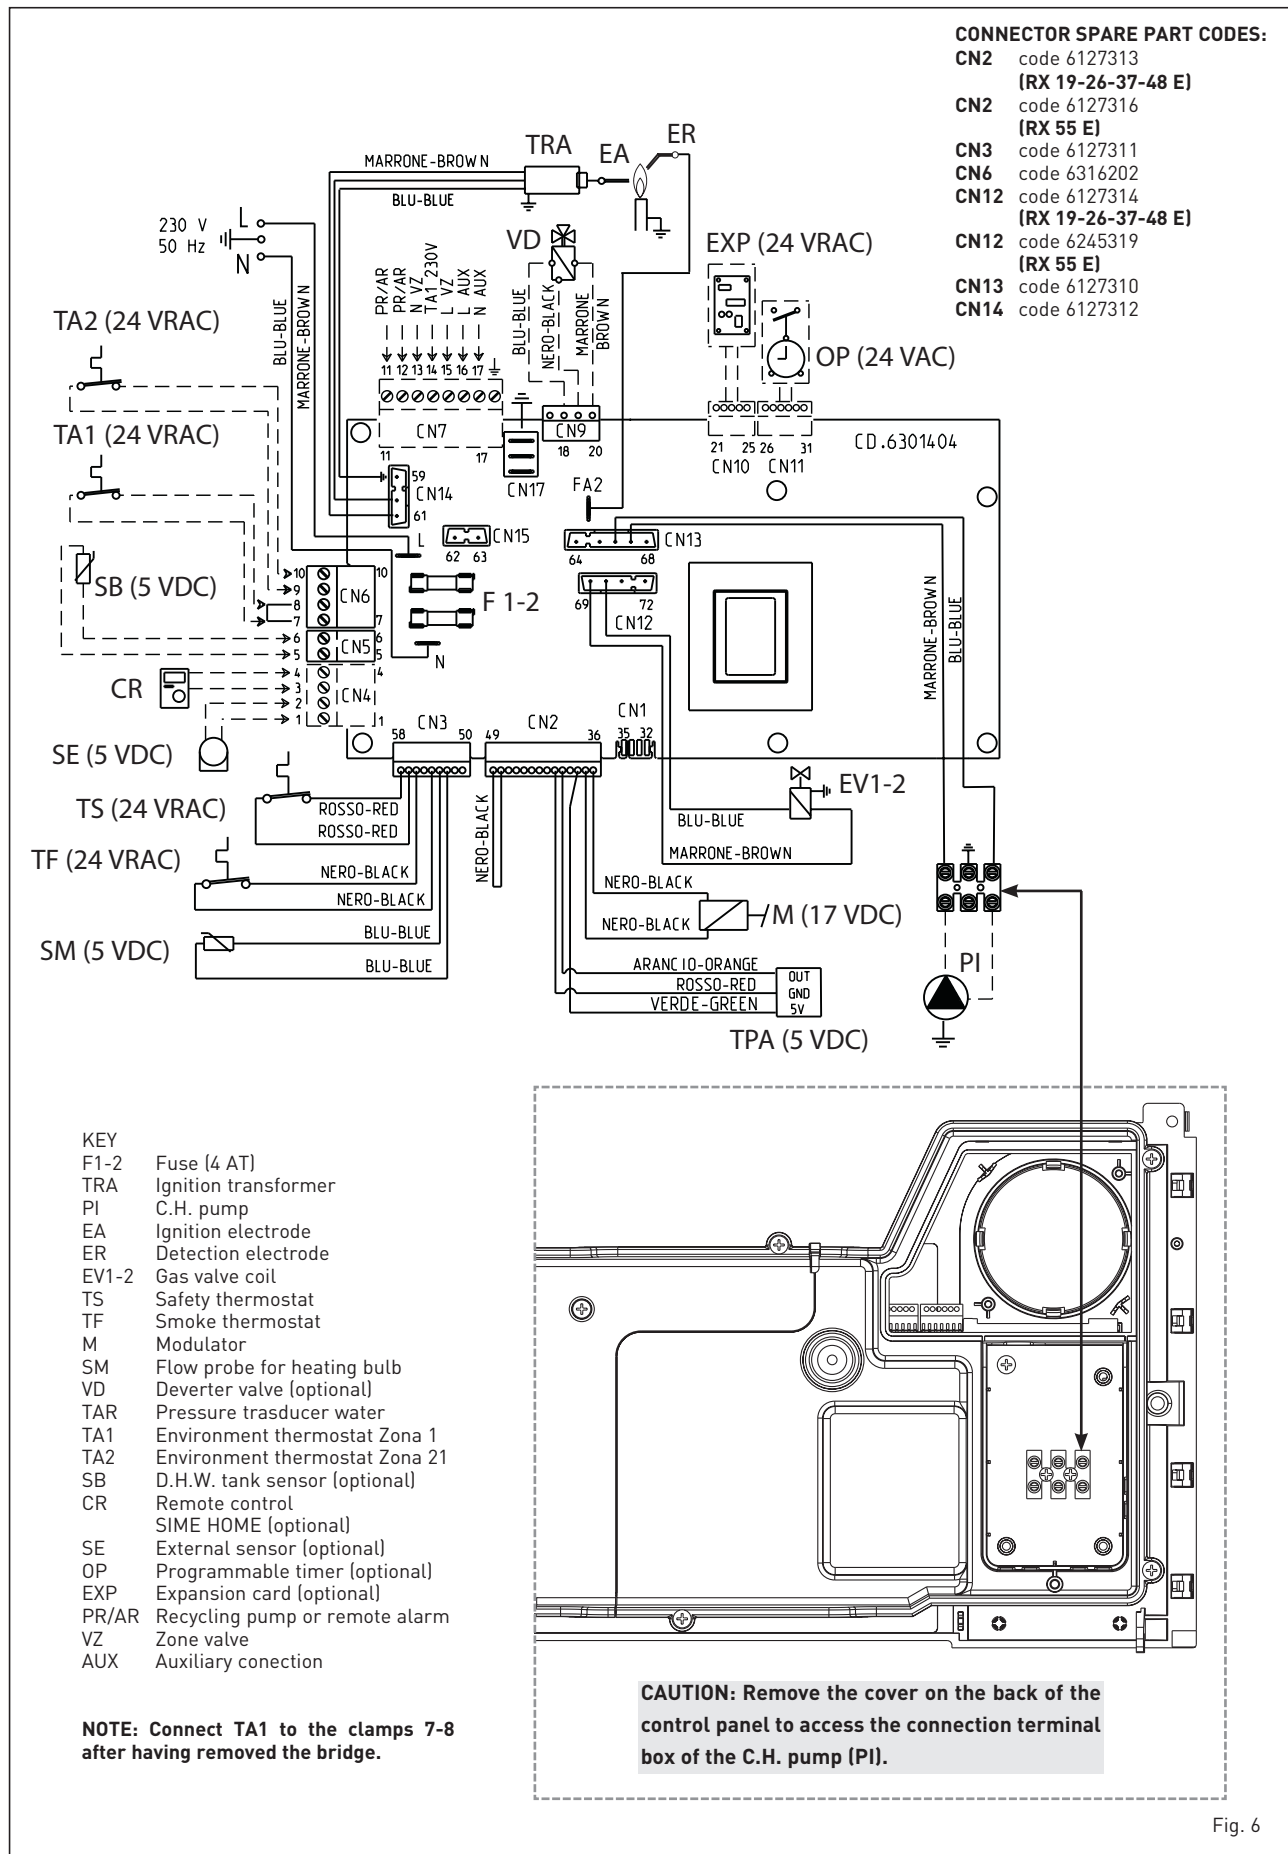

Fig. 6
Some examples are given below of boiler systems combined with different electronic systems. Where necessary, the parameters to be set in the boiler are given. The electrical connections to the boiler refer to the wording on the diagrams (fig. 6). The zone valve control starts at every
2.12.1 BOILER ELECTRICAL WITH DIVERTER VALVE (fig. 6)